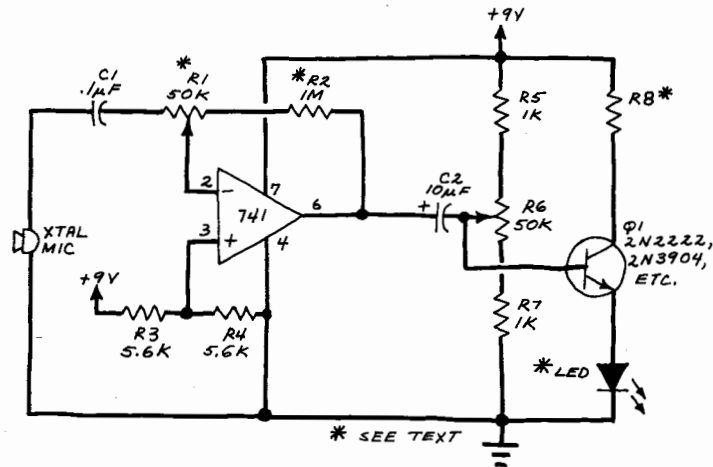

Fig. 1. Schematic of a light-wave voice transmitter.
**The Transmitter.** The transmitter, which is shown schematically in Fig. 1, employs a 741 op amp as a high-gain audio amplifier which is driven by a microphone. The output of the 741 is coupled to *Q1*, which serves as the driver for a LED. Potentiometer *R1* is the amplifier's gain control. Miniature trimmer resistor *R6* permits adjustment of the base bias of *Q1* for best transmitter performance.